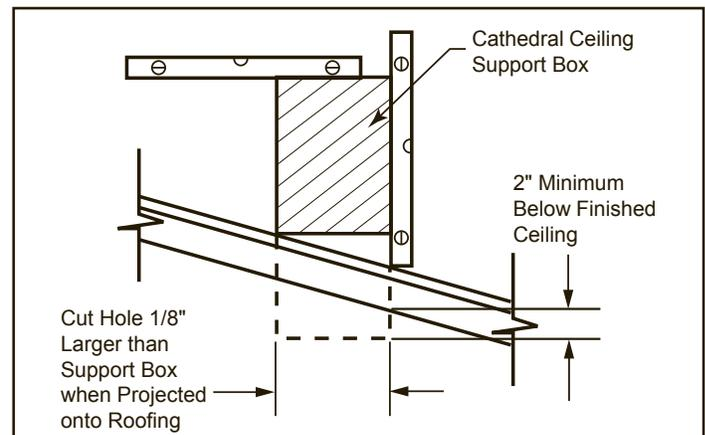

Figure 25 - Cathedral Ceiling Support Box Installation
2. Cut the hole 1/8" larger than the support box outline. Figure 25.
3. Lower the support box through the hole in the roof until the bottom of the box extends at least 2" (50 mm) below the ceiling. Figure 25. Align the support box vertically and horizontally using a level. Temporarily tack the support box in place through the inside walls and into the roof sheathing.